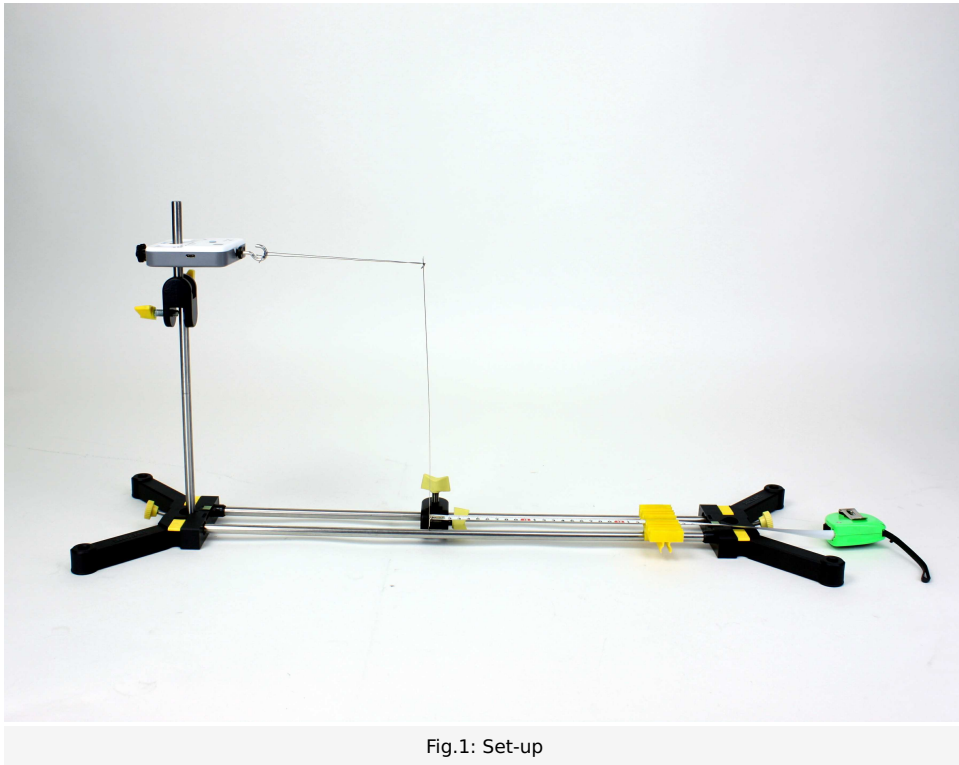
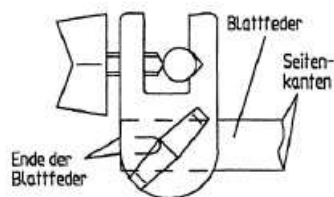

Fig.1: Set-up
Fig. 2: Fastening the leaf spring in the boss head
- Set up the experiment as shown in Fig. 1. Firmly connect the left foot of the stand to the horizontal rods by means of the yellow eccentric element. Also ensure that the leaf spring is correctly fastened in the bosshead (Fig. 2).